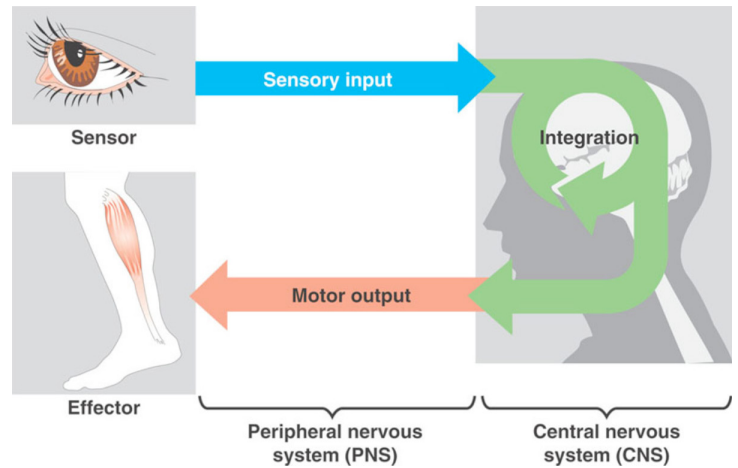

Figure 2. Campbell N.A., Reece, J.B., BIOLOGY, 7th ed., Pearson Publishing, p.1013.
5. An individual's reaction time is determined by the actions of several human body systems working together in response to a stimulus and this response occurs in three stages. Analyze Figure 2 below and write a maximum three-sentence description of how sensory organs (such as the eyes), the nervous system, and muscles work together during the reaction time process.